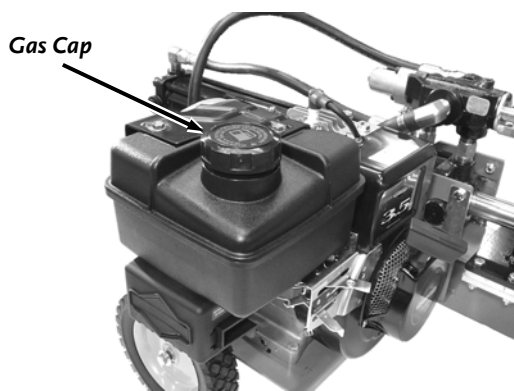

Figure 17
8. Remove the Gas Cap (**Figure 17**) and fill the engine's fuel tank with fresh, clean, lead-free automotive gasoline to approximately 1-1/2" below top of neck to allow for expansion.